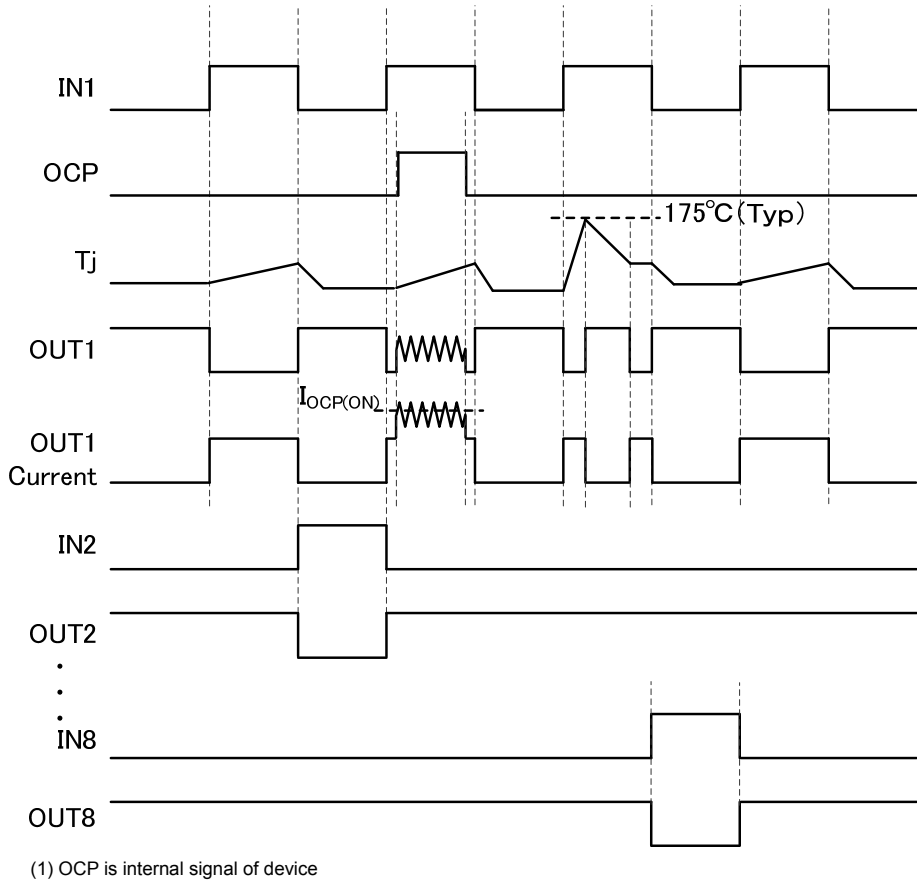
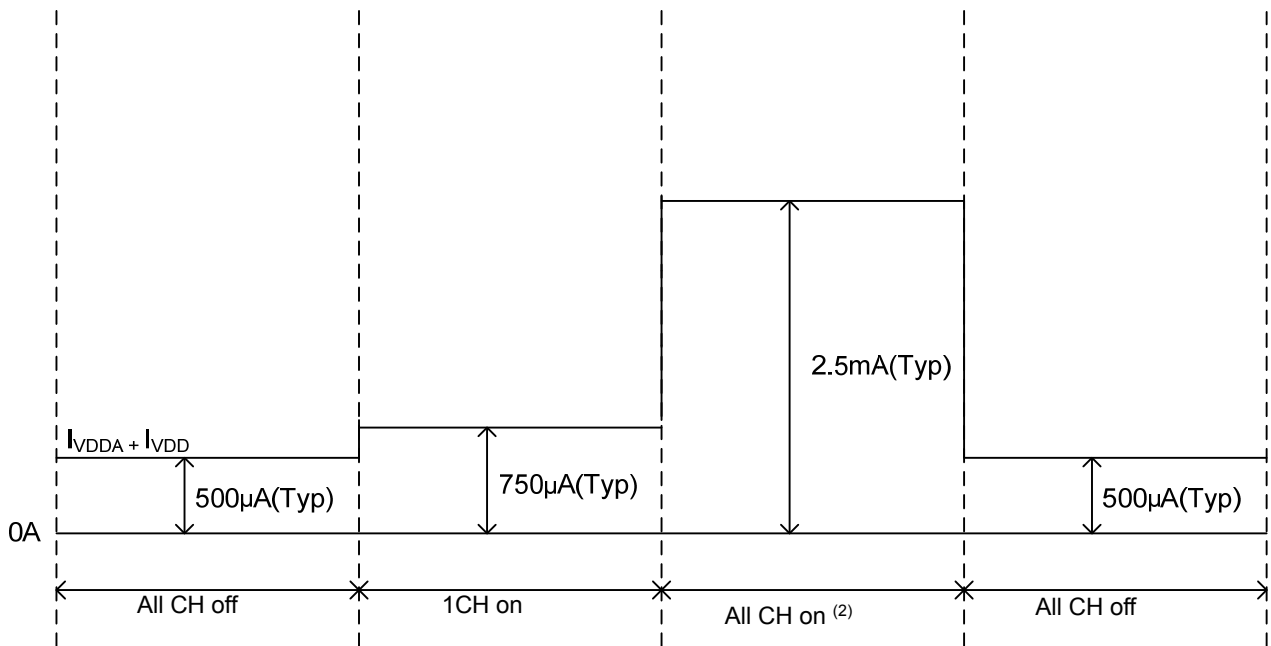

Figure 26. DIR Mode Timing Chart (2)
Figure 27. Operation Current State Transition Diagram
| 03.Apr.2015 | 003 | <p>P1 Add "AEC-Q100 qualified" to Features</p> <p>P3 active clamp energy condition added</p> <p>P4 Limit(Typ) of VDDA Operating current changed</p> <p>P4 Limit values of L level input current 2(CS_B) changed</p> <p>P5 Condition of "Open Load release voltage", "Open load detection threshold voltage" and "Open load detection time" added</p> <p>P6 Modify Figure 5.</p> <p>P7 Modify DIR(Direct)mode Diagnostic Output Truth Table</p> <p>P9 Characteristic Data of L level input current 2(CS_B) changed</p> <p>P11 Timing Chart with Inductive Load changed</p> <p>P12 I/O Equivalent Circuits changed</p> <p>P13 initial value of INn added</p> <p>P15 add note to SPI RST_B sequence</p> <p>P16 SPI timing chart and add note changed</p> <p>P17 DIR (direct) mode timing chart (1) and note changed</p> <p>P18 Figure 26. and note changed</p> <p>P18 Figure 27. changed</p> <p>P19 timing chart of ① Overcurrent protection and ② Overheat protection changed explanation of error flag release changed</p> <p>P20 ③ Open detection changed</p> <p>P22 "7) Operation Under Strong Electromagnetic Field" added</p> <p>P23 "15) FIN" deleted</p> <p>Whole page all unit changed to SI unit</p> |